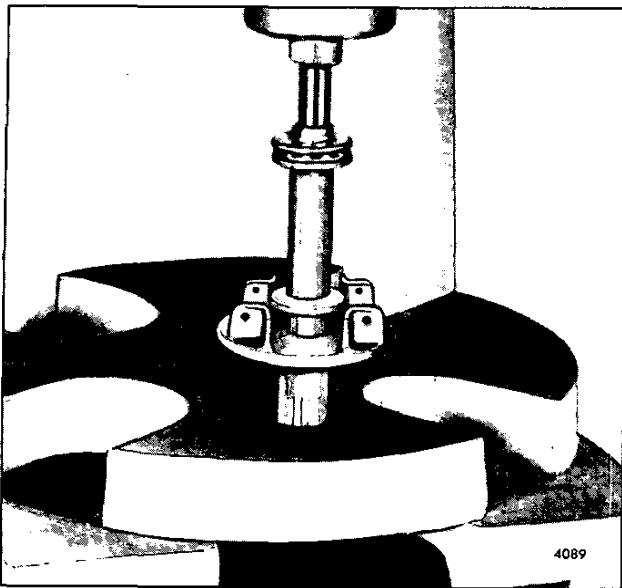

Fig. 17 – Installing Weight Carrier on Shaft
2. Press the shaft into the weight carrier, using tool J 8984 as illustrated in Fig. 17. The tool will properly position the weight carrier on the shaft. However, if a four-weight assembly is used, press the shaft in until it extends .555" to .559" from the weight carrier.